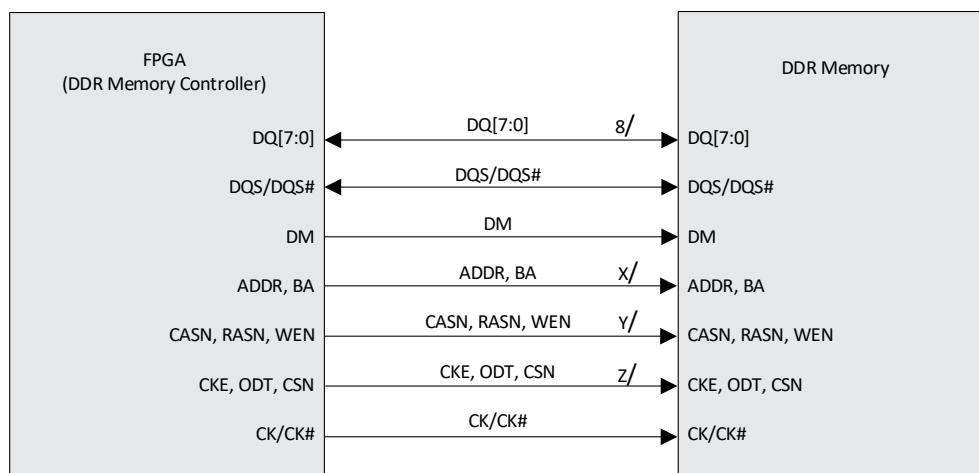

Figure 6.1. Typical DDR3/DDR3L Memory Interface
Figure 6.1 shows typical DDR memory signals. DDR3, DDR3L, LPDDR2 and LPDDR3 memory interfaces are typically implemented with eight DQ data bits per DQS. Therefore, a 16-bit DDR memory interface uses two DQS signals, and each DQS is associated with eight DQ bits, respectively. Both the DQ and DQS are bi-directional ports and are used to read and write to the memory.
DDR memories also require a Data Mask (DM) signal to mask data bits during write cycles. Note that the ratio of DQS to data bits is independent of the overall width of the memory. Figure 6.1 shows a typical 8-bit interface that has eight associated DQ data bits per DQS strobe signal.